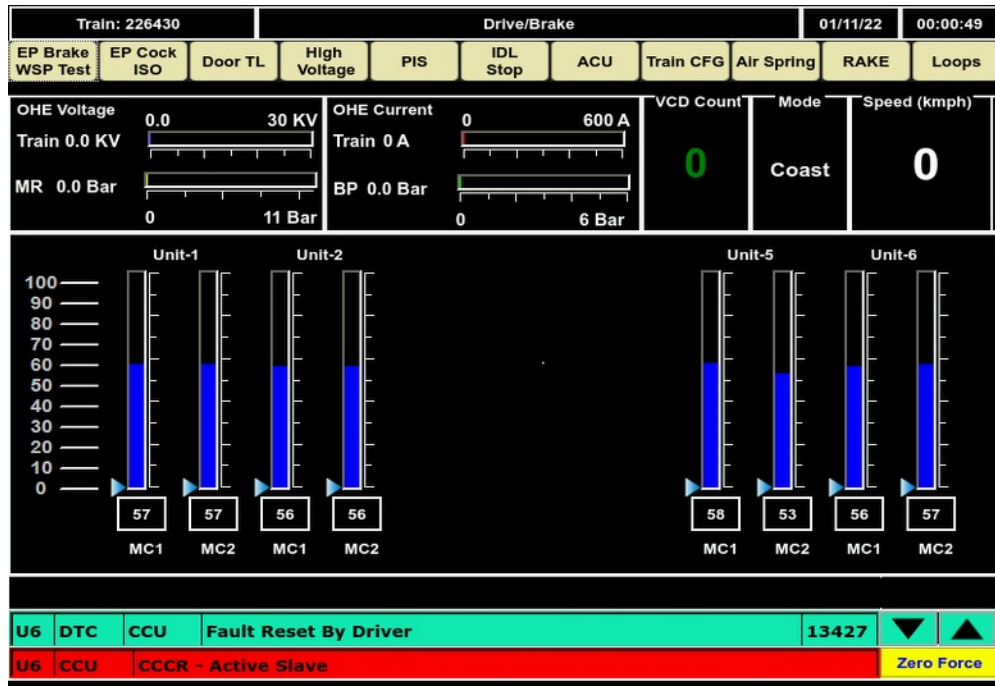

Fig. 5.4
The braking efforts are combined values for electrical (ED) and pneumatic (EP) brakes. The solid bars in each basic unit show the actual (achieved) traction/ braking effort values. The actual achieved value is displayed in the label below the solid bars for each basic unit as shown in Fig 5.4.